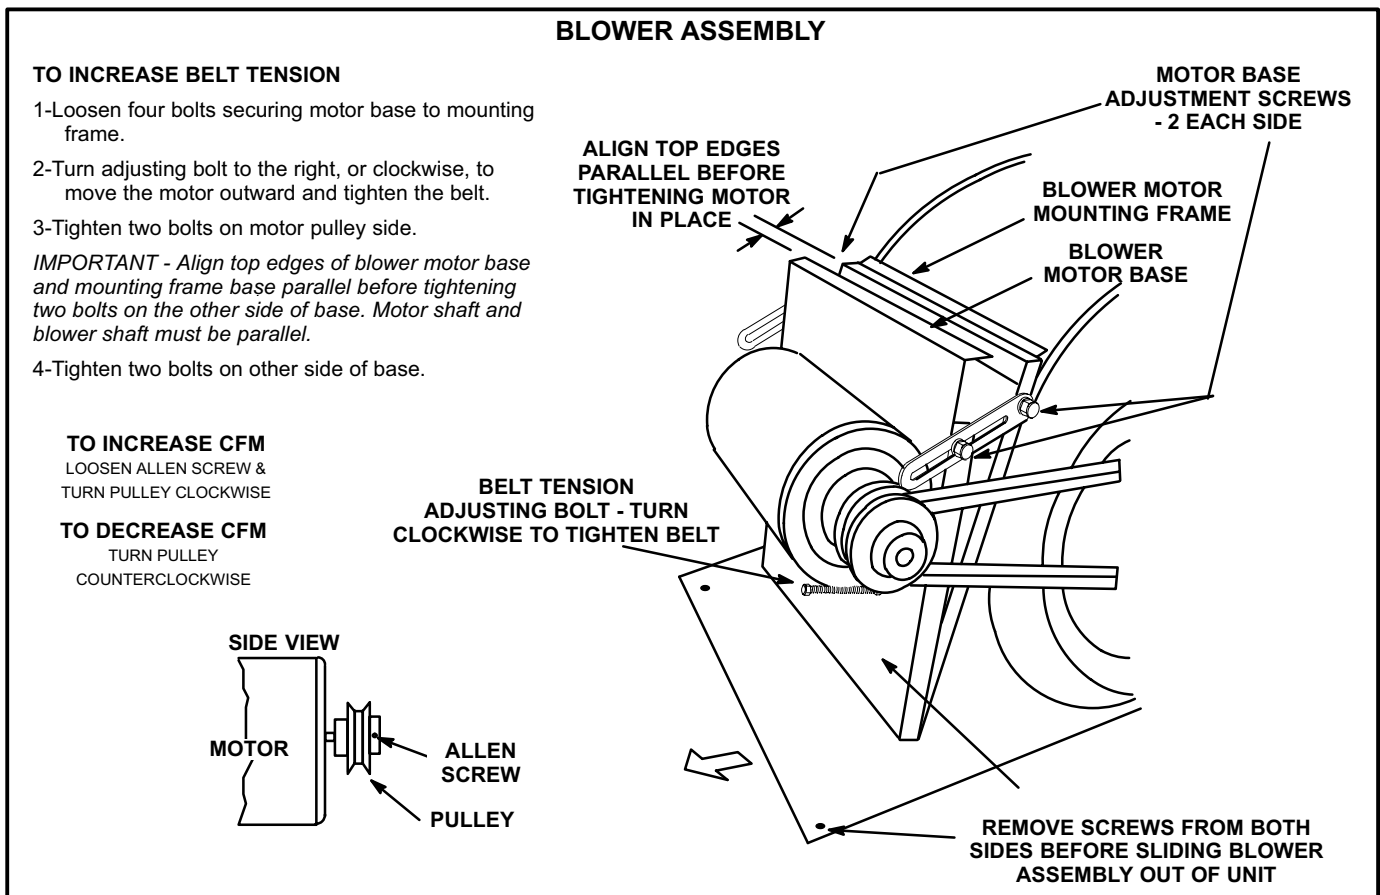

FIGURE 10
- 2- Remove screws on either side of blower assembly sliding base. See figure 10.
- 5- The blower RPM can be adjusted at the motor pulley. Loosen Allen screw and turn adjustable pulley clockwise to increase CFM. Turn counterclockwise to decrease CFM. See figure 10.
- 1- Loosen four bolts securing motor base to mounting frame. See figure 10.